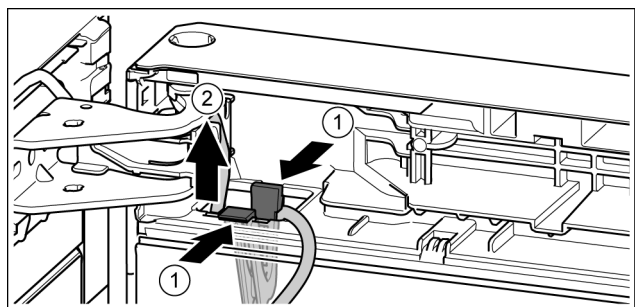

Fig. 25
- ▶ Press the tab. Fig. 25 (1)
- ▶ Remove the cable holder with its cable. Fig. 25 (2)